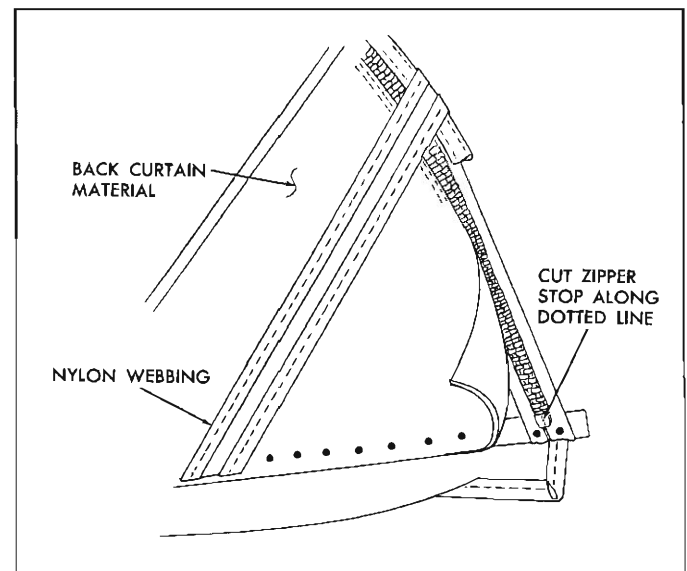

Fig. 78—Back Curtain Vinyl Replacement
9. Using a pair of wire cutting shears or other suitable tool, cut zipper stop along dotted line and remove both halves of stop from zipper (fig. 78).